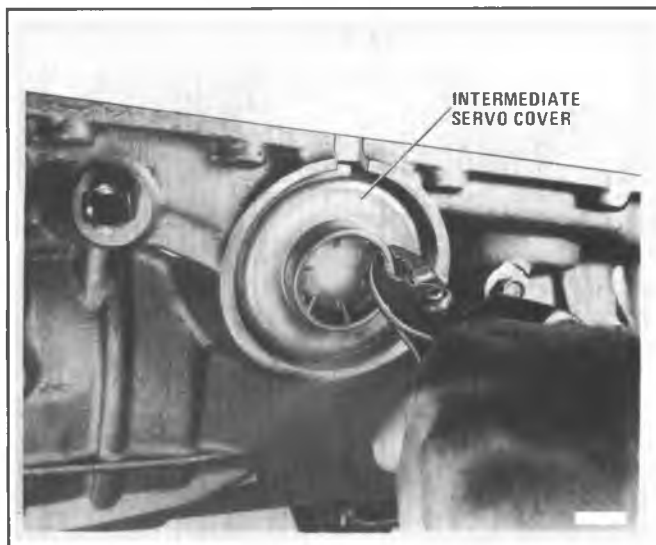

Figure 7A6-23 Removing Intermediate Servo Cover
c. Install dial indicator J-8001 and position dial indicator point (Figure 7A6-25) on top of J-25014-2 post and set dial indicator to zero.